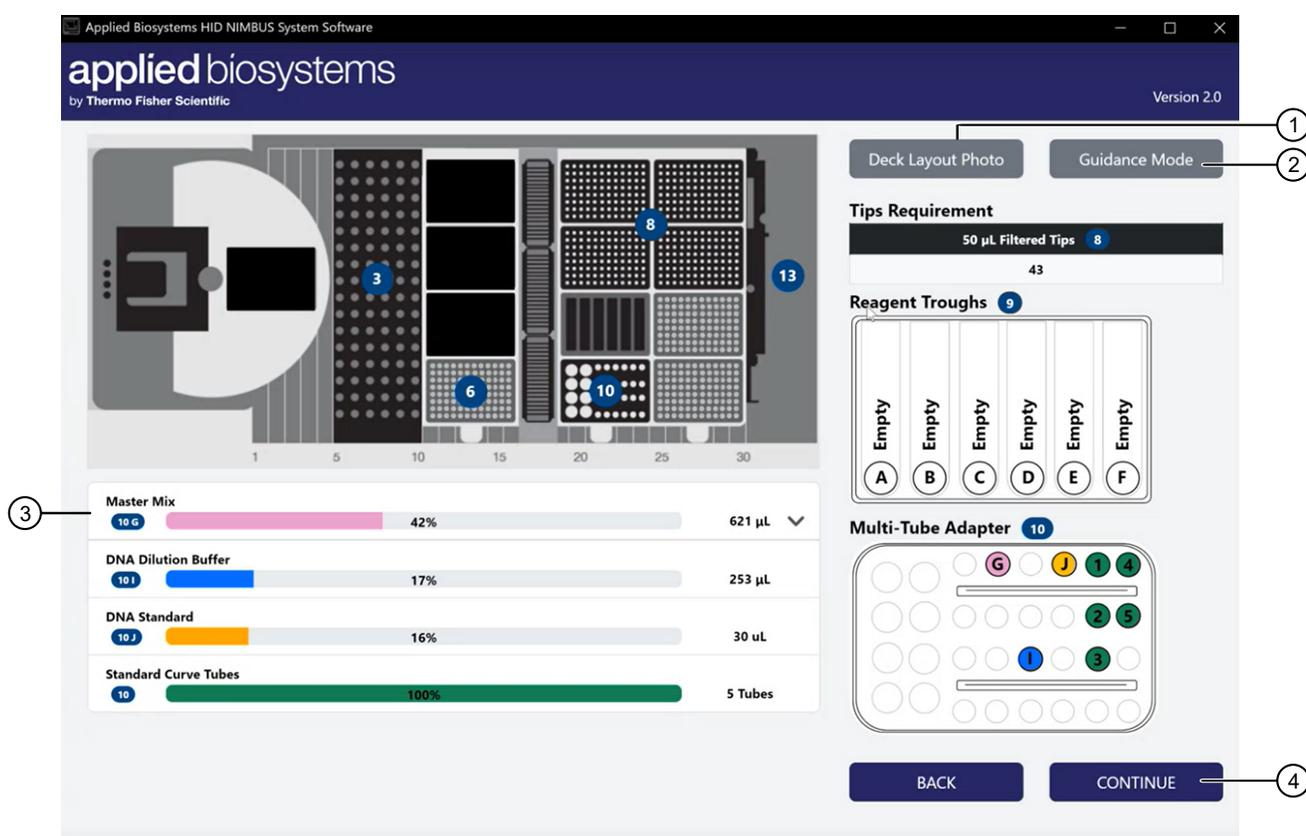
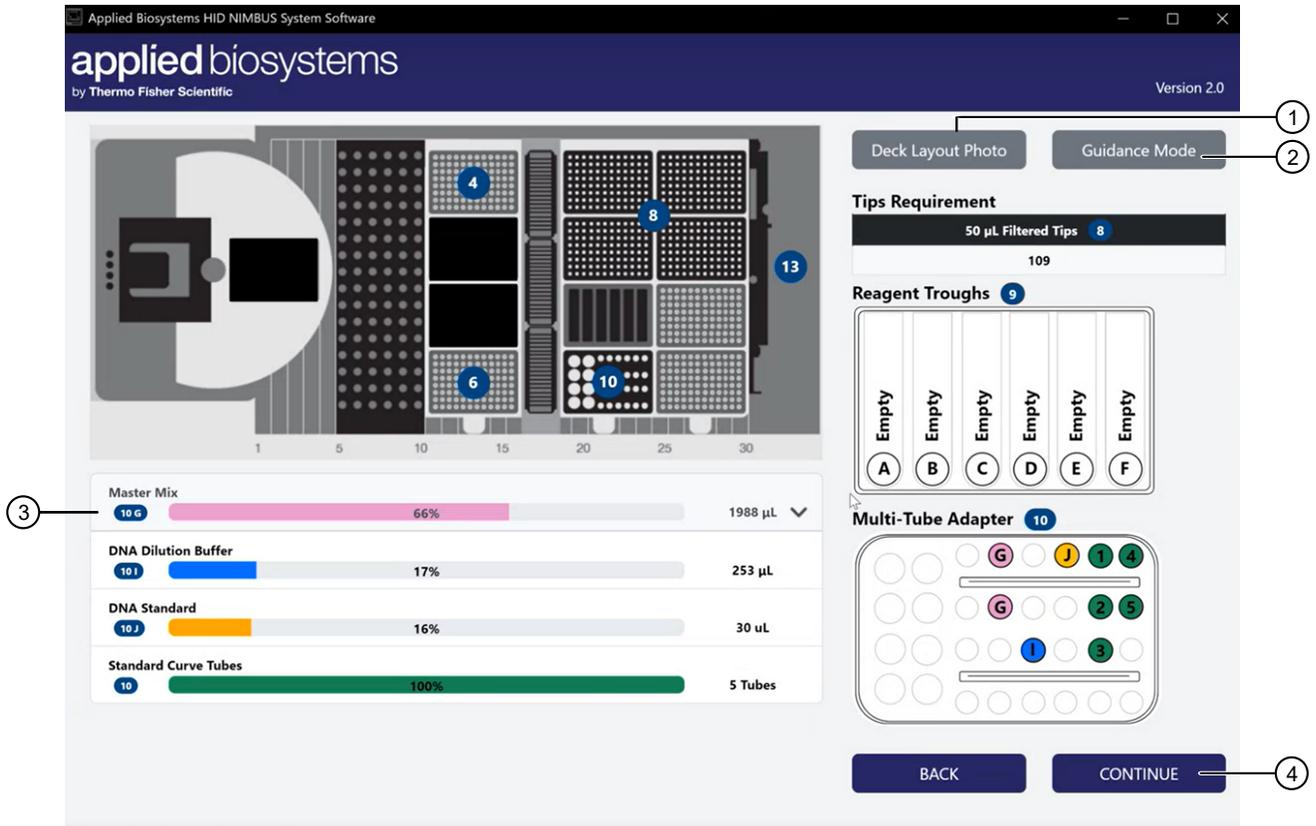

Figure 12 Example quantification deck layout with tubes as the input labware
Figure 13 Example quantification deck layout with a plate as the input labware
1. Place all reagents according to the diagram in the deck summary screen (see Figure 12 and Figure 13).
IMPORTANT! The total number of 50 µL tips is 384. The top left rack contains tips 1–96, the bottom left rack contains tips 97–192, the top right rack contains tips 193–288, and the bottom right rack contains tips 289–384. See Figure 12 and Figure 13.